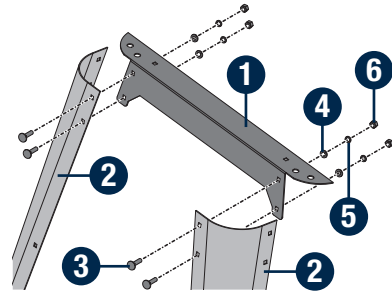

Fig. 4a
## ASSEMBLING THE WORK STAND (Fig. 4a-4f)
- Attach one long upper brace **1** to top of two legs **2** using carriage screws M5 x 16 **3**, flat washers **5** **4**, spring washers **5** **5** and hex nuts M5 **6**. (Fig. 4a)